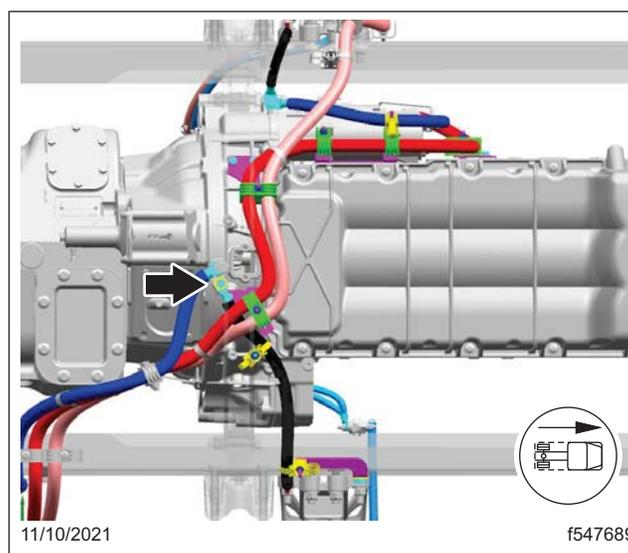

Fig. 35, Aluminum Battery Cable Bolt at the Flywheel Housing
6. Remove the negative aluminum battery cable bolt at the flywheel housing, then disconnect the negative aluminum battery cable. See Fig. 35.